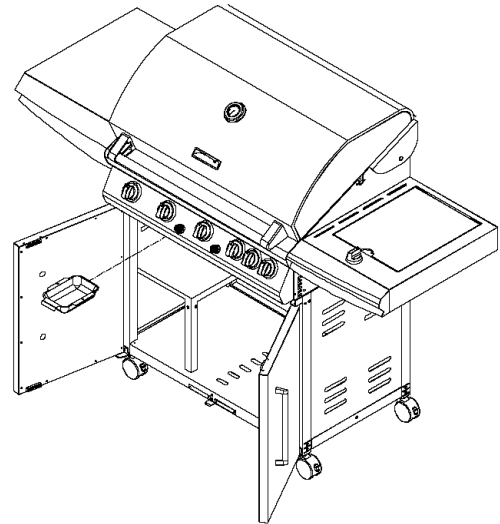

Figure 5
- Install Grease Receptacle under the Grease Draining Tray from the front of grill. (See figure 5).